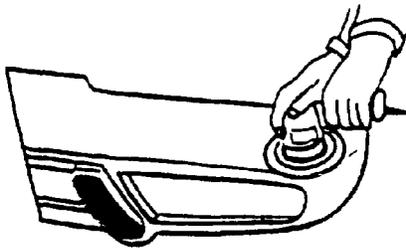

FIGURE A2—SANDING DAMAGED AREA WITH A R/O SANDER
A.2.2 Surface Preparation—After cleaning the damaged area with soap and water, grease and wax remover or suitable plastic cleaner, the surface is made ready for the application of a two-part (2K) repair adhesive or plastic welding. Note that instructions regarding cleaning vary greatly among suppliers. Supplier's instructions should first be followed. This is accomplished by grinding the damaged areas with a grade 36 grinding disc followed by grade 80 to remove the grade 36 scratches. It is important to vee out the area along a tear, around a puncture or gouge to expose more surface area for adhesive bonding or plastic welding. However, if there is the potential that the repair will produce read-through, form a tapered, rather than a vee groove. The paint is then featheredged back using a grade 180 disc on a random orbital (R/O) sander (Figure A2).